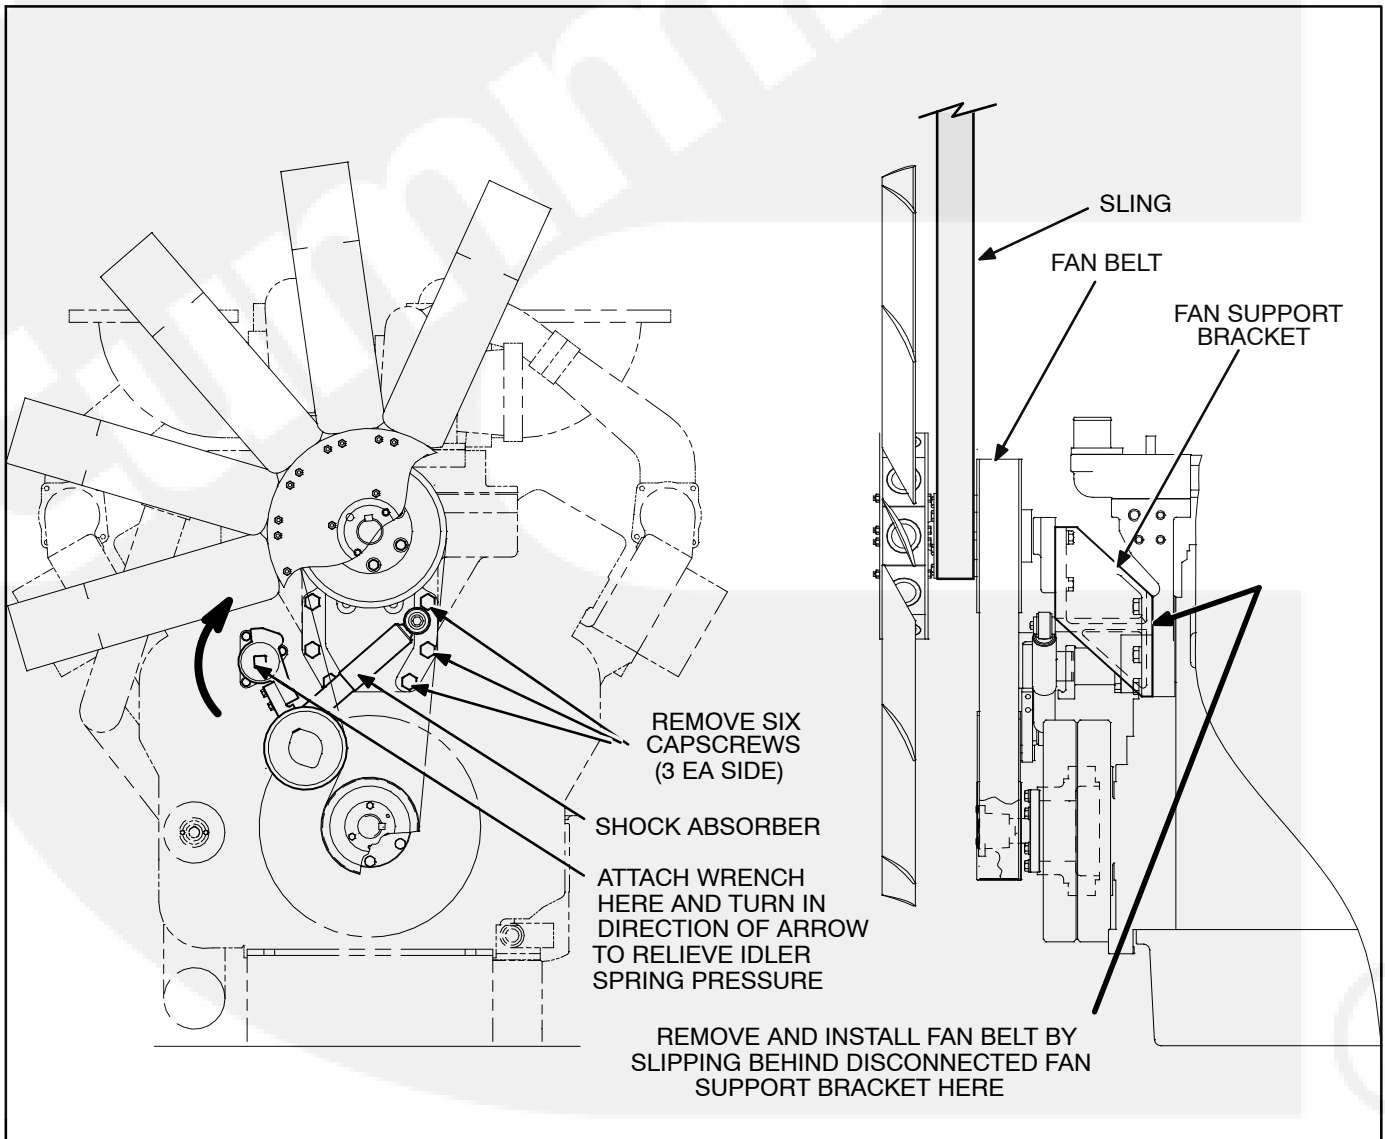

FIGURE 7-5. FAN BELT REPLACEMENT
4. Using an overhead hoist and sling assembly, position sling around spacer (between hub and fan). Take up slack on sling just enough to support fan assembly (Figure 7-5).